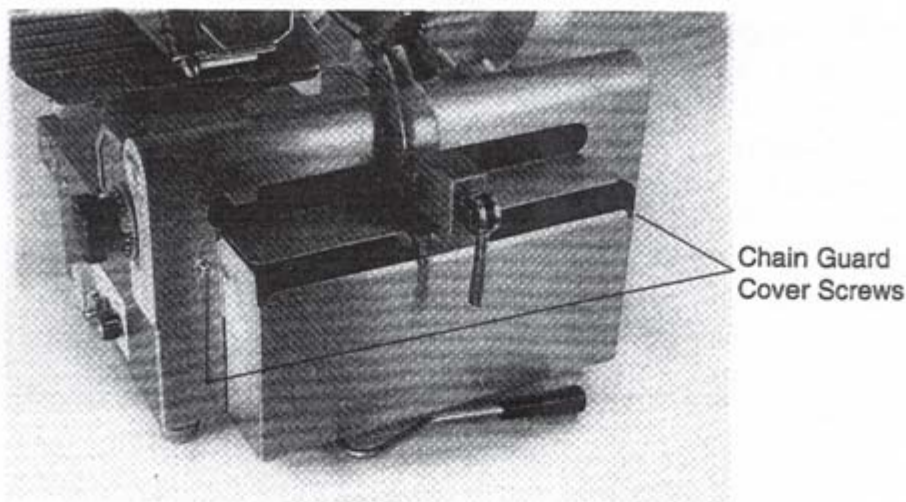

Figure 15-1
5. **CHAIN GUARD COVER** (Automatic Models Only): Remove the chain guard cover by loosening the chain guard cover screws. (Fig. 15-1) Push in on the sides of the chain guard cover to clear the chain guard cover screws. Slicer will not start with chain guard cover removed.